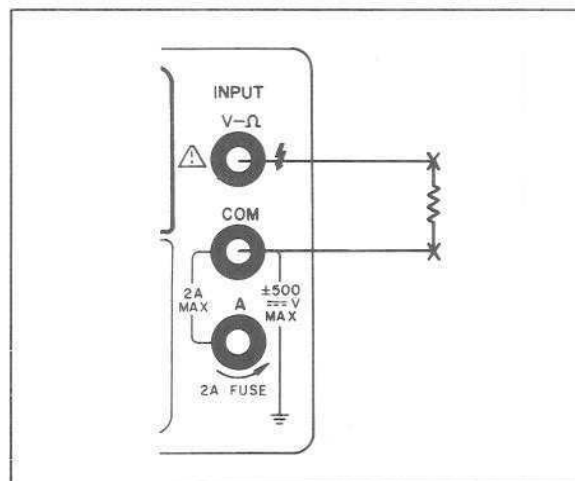

Figure 3-9. Resistance Measurement.
- Connect test leads from the Multimeter $V\Omega$ (+) and COM (-) terminals to the resistance under test as shown in Figure 3-9.